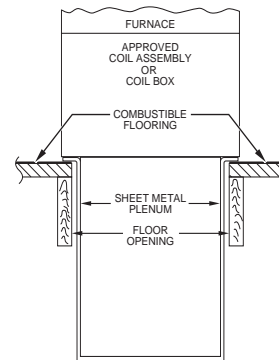

Fig. 13 – Furnace, Plenum, and Coil Assembly or Coil Box Installed on a Combustible Floor
- If downflow subbase KGASB is used, install as shown (see Table 12). If Coil Assembly Part No. CNPV, CNRV, CAP and CNR or Coil Box Part No. KCAKC is used, install as shown (see Fig. 13).